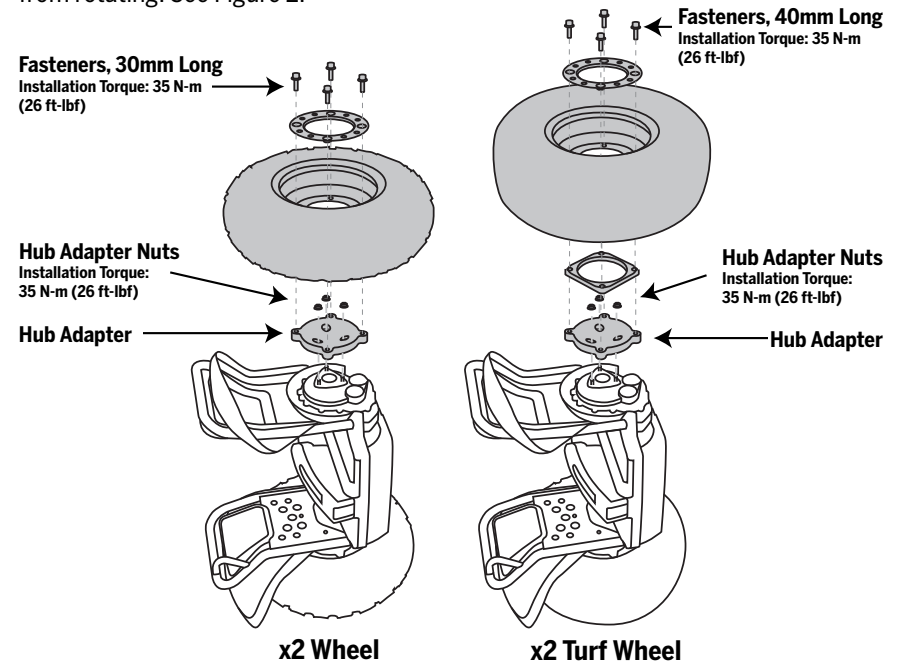

Figure 2. Removing or Installing the Hub Adapter
3. Remove the (3) nuts using a 13mm socket wrench. Hold the wheel to keep it from rotating. See Figure 2.
5. Remove the (4) fasteners attaching the Hub Adapter to the Wheel using a 8mm hex wrench.
7. To re-install the Hub Adapter, place the wheel over the hub adapter with the valve stem facing outward. For x2 Turf: Place the Spacer over the hub adapter, then place the wheel over the spacer. See Figure 2.
8. Place the trim over the wheel. Thread (4) fasteners through the trim and wheel and into the hub adapter.
9. Place the Wheel and Hub Adapter over the 3 threaded posts. See Figure 2. Hold the wheel to prevent it from rotating and thread (3) nuts onto the threaded posts. Using a 13mm socket wrench, tighten to 35 N-m (26 ft-lbf).